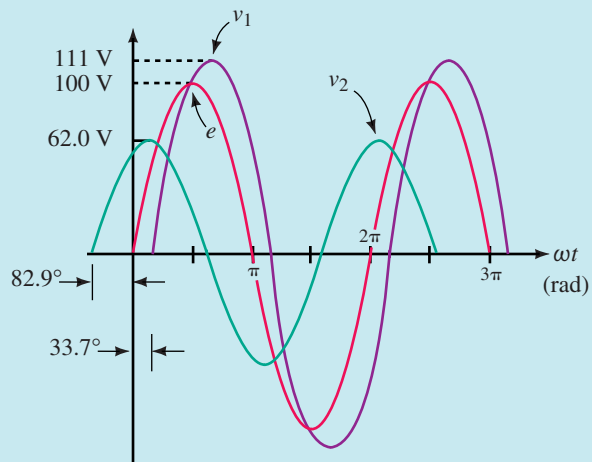

FIGURE 18-34
c. The corresponding sinusoidal voltages are shown in Figure 18-34.